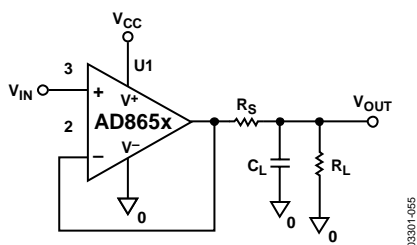

Figure 56. Driving Large Capacitive Loads
- As shown in Figure 56, place a small value resistor ( $R_S$ ) in series with the output to isolate the load capacitor from the amplifier output. Heavy capacitive loads can reduce the phase margin of an amplifier and cause the amplifier response to peak or become unstable. The AD865x is able to drive up to 47 pF in a unity gain buffer configuration without oscillation or external compensation. However, if an application requires a higher capacitive load drive when the AD865x is in unity gain, the use of external isolation networks can be used. The effect produced by this resistor is to isolate the op amp output from the capacitive load. The required amount of series resistance has been tabulated in Table 5 for different capacitive loads. While this technique improves the overall capacitive load drive for the amplifier, its biggest drawback is that it reduces the output swing of the overall circuit.